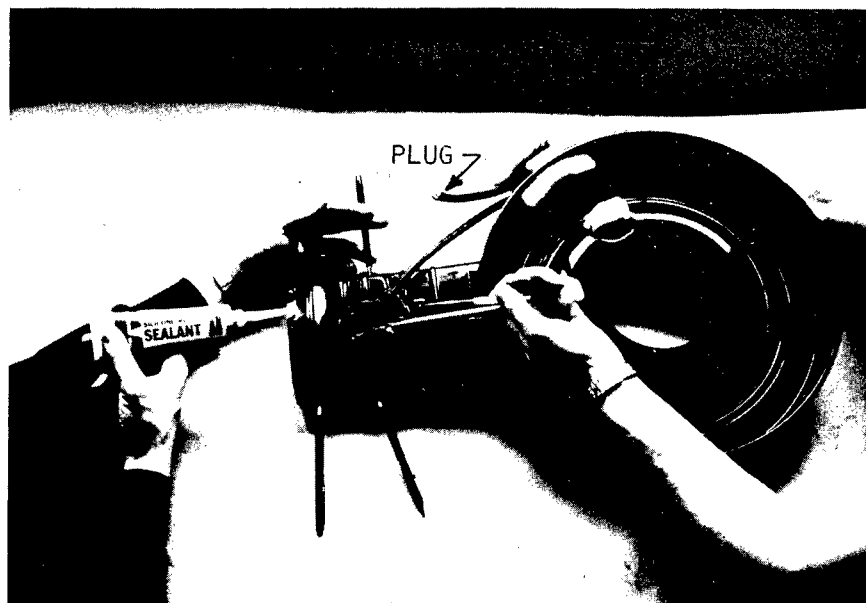
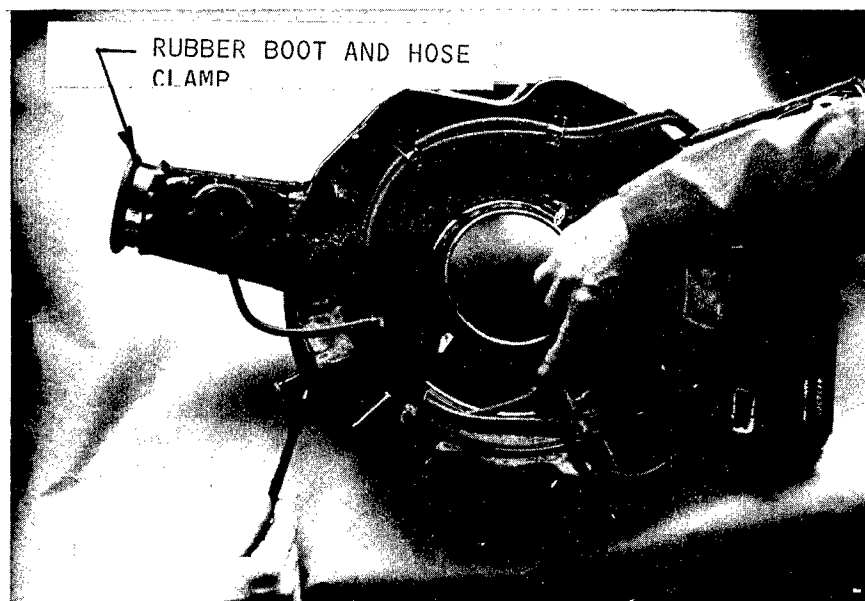

Figure 7
Figure 9
D. In addition to dust leaks, the hot air valves and secondary inlets on some air cleaner models must also be deactivated and sealed, Figs 7 and 8. The secondary inlet on some models can be sealed by stretching a piece of heavy truck tire inner tube over the inlet and securing it with silicone rubber sealant and hose clamps, Figs 9 and 10. Elimination of the secondary inlet may cause excessive restriction at wide open throttle (wot) conditions. If the condition is unacceptable (Ref Appendix No. 2, Para. 3) an auxiliary duct to the secondary inlet can be tee'd into the primary duct. The tee, or "Y" section should be constructed from rigid exhaust pipe.